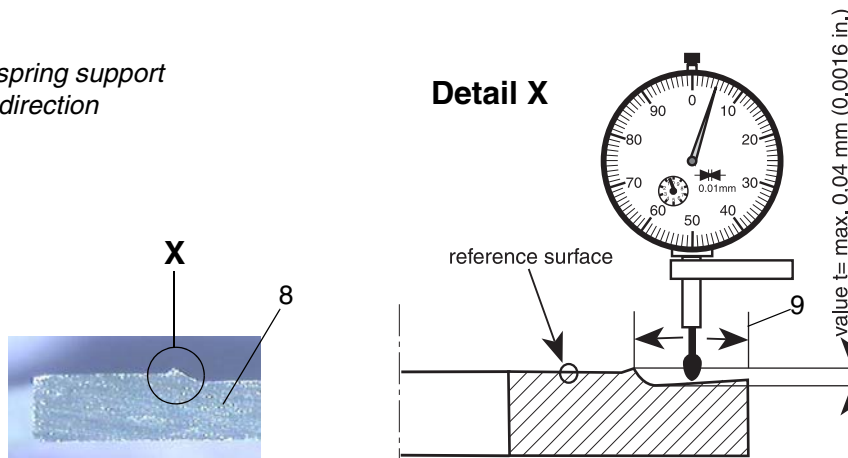

Fig. 4
1	<p>Inspect valve spring support (8). Measure the wear referring to the reference surface (inner area of valve spring support) in radial direction (9) to outer side with a dial gauge. Value <math>t = \max. 0.04 \text{ mm (0.0016in.)}</math>. See Fig. 4. An exceeding of <math>\max. 0.04 \text{ mm (0.0016 in.)}</math> is not acceptable.</p> <p>NOTE: The valve spring support indicates a possible malfunction of valve train caused by incorrectly or insufficiently purged hydraulic valve tappets. At standard conditions no wear is visible even after a long time of operation. If the visual inspection shows some wear on the valve spring support surface, measure the actual wear with a dial gauge.</p>